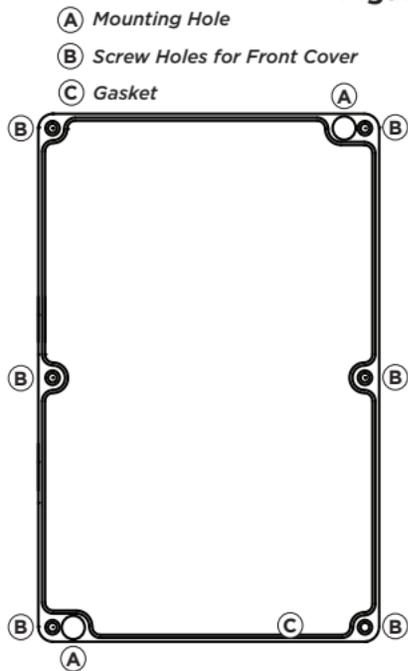

Figure 3: Inside Base View
2. Connect the panel keypad bus wiring to the keypad harness. Observe wire colors when connecting and do not use shielded wire. Figure 3 shows wiring harness assignments. Observe wire colors when connecting the red, yellow, green, and black wires to the keypad bus. The violet wire can be used for an external sounder. See *External Sounder*.
4. Place the front cover onto the base and line up the screw holes to the base. Secure the cover to the base with the included six tamper-proof screws using the tamper bit. See Figure 3.